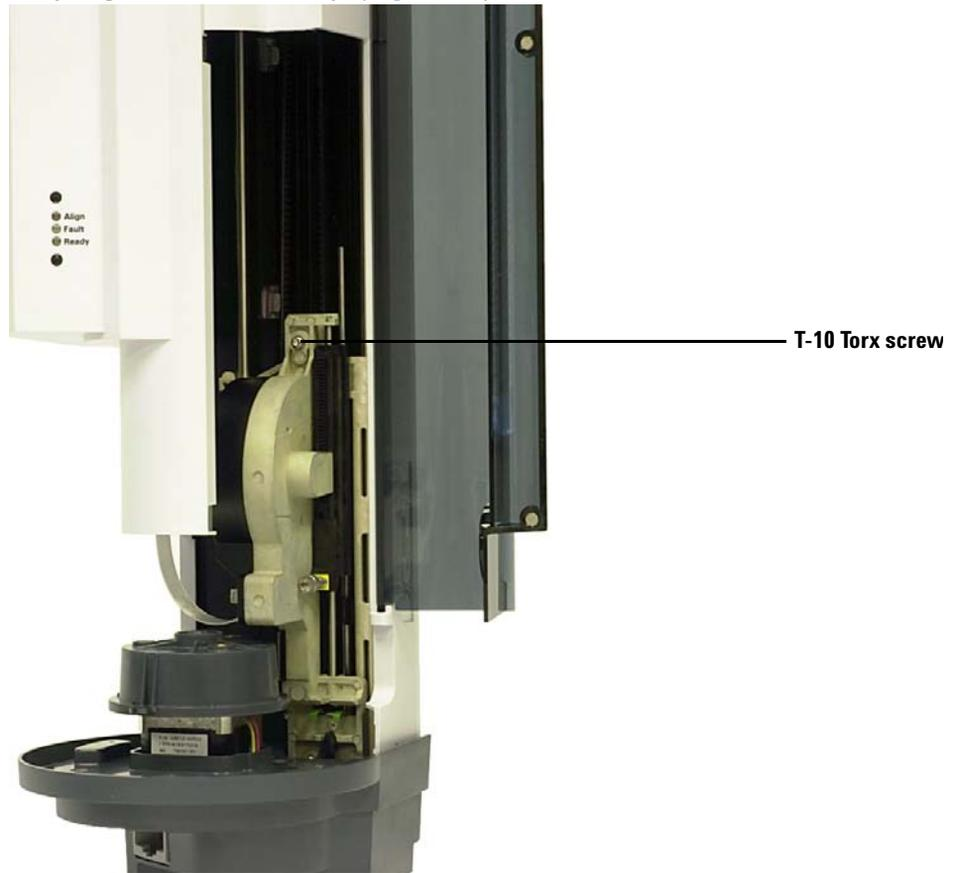

Figure 60 Removing the syringe carrier top T-10 Torx screw
- 4 Completely loosen and remove the T-10 Torx screw at the top of the syringe carrier assembly (Figure 60).